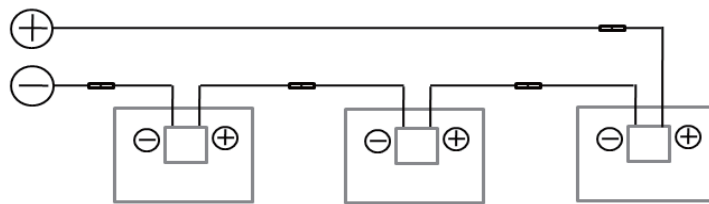
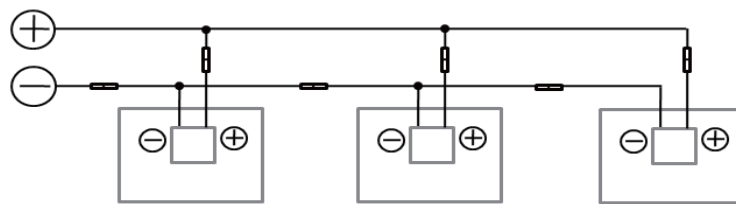
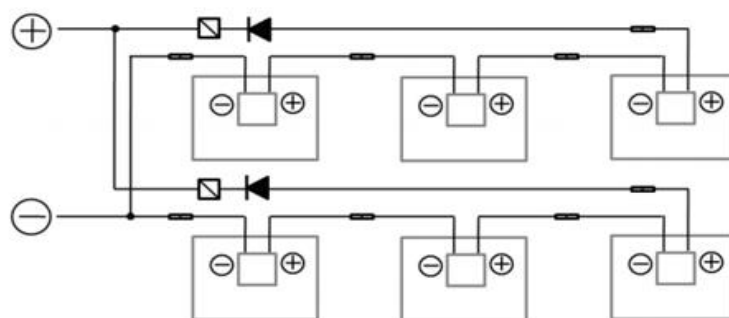

Fig. 10-1 Series Connection
Fig.10-2 Parallel Connection
Fig.10-3 Parallel-series Connection
- In order to ensure the normal running of the system, when connecting modules or loads, please ensure that the polarity of the cable connection is correct. If the modules are incorrectly connected, the bypass diodes and junction boxes may be damaged. PV modules can be connected in series (Fig. 10-1), in parallel (Fig.10-2) and in series-parallel (Fig. 10-3). The number of serial or parallel connections shall be reasonably designed according to the system configuration. Also note that if the number of parallel connections ≥ 2 , there must be an over-current protection device on each string assembly.